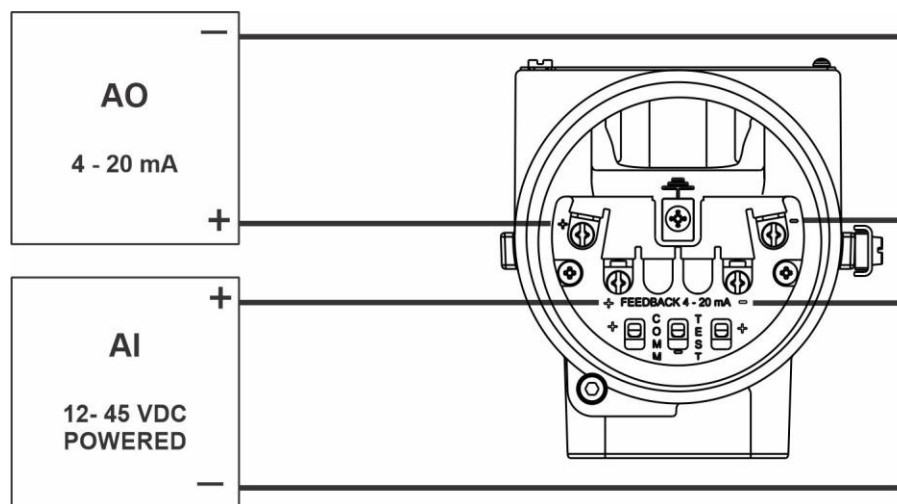

Figure 1.24 – Feedback connections
2. Connect the positive wire from the control system input card to the FEEDBACK + terminal. Connect the negative wire from the control system input card to the FEEDBACK - terminal. See figure 1.24.